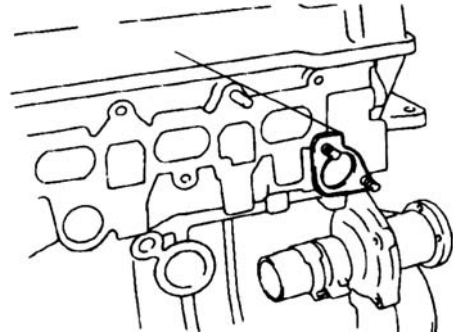

Figure 73
32. Set the new gasket on cylinder head with flange upward. Install water inlet hose. See (Figure 73)